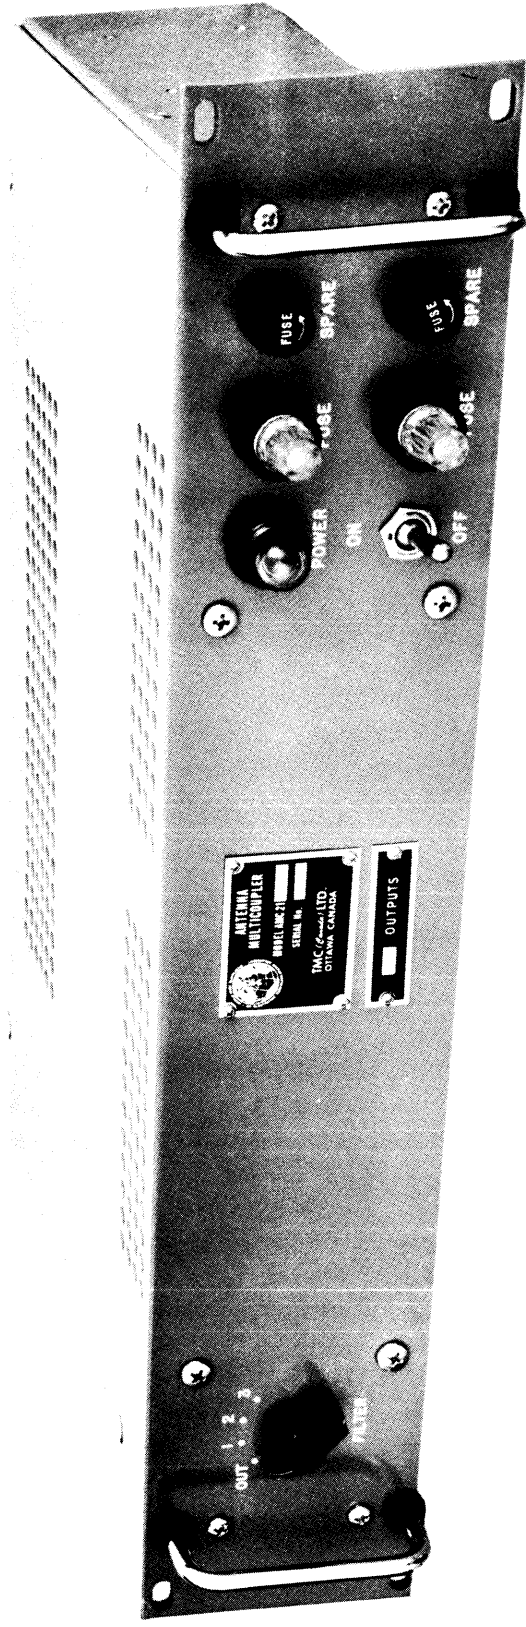

FIGURE 1-1 ANTENNA MULTICOUPLER, MODEL AMC-21B
(1) The Antenna Multicoupler, Model AMC-21B, (Figure 1-1) is a broadband antenna-to-receiver coupling device which permits the use of a common antenna by a number of communications receivers. It consists of a broadband transistorized preamplifier, optional filters, and a variable number of output modules.
(2) The AMC-21B may be provided with any or all of its optional filters, or without any filters. The filters available are the broadcast band stop filter which cuts off all frequencies in the broadcast band, the high pass filter which cuts off frequencies below 2 MHz, and the low pass filter which cuts off frequencies above 2 MHz.
(3) The basic AMC-21B provides 16 output stages (channels) for coupling a single antenna to 16 receivers. Inherent in the design of the AMC-21B is the capability of increasing or reducing the number of channels by adding or removing plug-in output modules in increments of two modules (four channels), so that units with 4, 8, 12 and 16 outputs are readily available. These models are designated AMC-21B-4, AMC-21B-8, AMC-21B-12 and AMC-21B-16. Unless otherwise noted, this manual will describe the AMC-21B-16; however, all models may be considered identical with respect to installation, operation, theory and maintenance.
(4) Spurious signals generated in the AMC-21B are kept to a minimum. As a function of equipment design considerable reduction is achieved in the amplitude of signals re-radiated from one receiver to another or from any receiver to the common antenna system. The AMC-21B has built-in protection features against overloading in the antenna system by strong RF signals.
(5) If operation of more than 16 receivers from a common antenna is desired, several AMC-21B's may be cascaded by connecting the individual outputs of one AMC-21B to the input connectors of additional AMC-21B units. This makes possible the operation of 16 x 16 or 256 receivers from a single antenna through 17 AMC-21B units. This cascading of units does not cause noticeable deterioration in their performance.